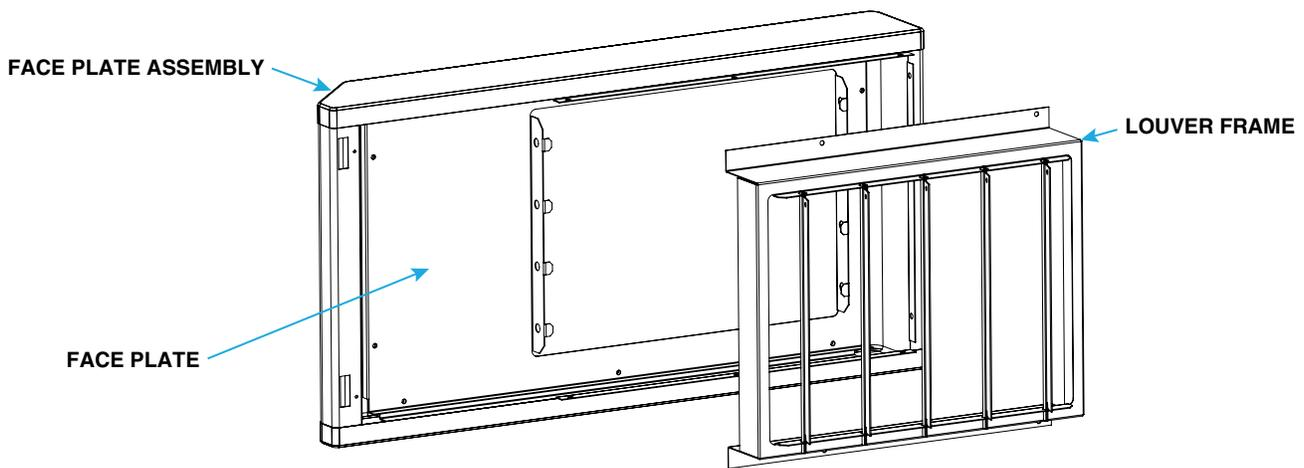

Figure 2. Typical Face Plate Assembly and Louver Frame
4. Remove door on right side of unit to access screws that secure face plate assembly (see Figure 2) to front of unit. Remove screws and remove face plate assembly.
5. If installing option CD4 or CD5, position louver frame (see **Figure 2**) in face plate outlet so that holes align and secure frame to face plate using screws from kit.